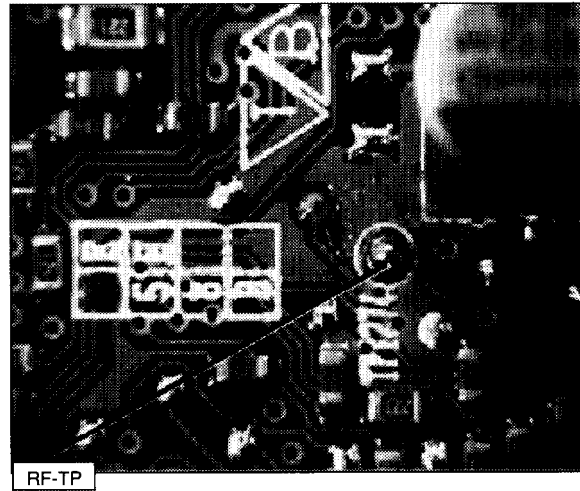

Fig 3-1
- 1). Solder a lead wire at the RF-TP point shown in the Fig. 3-1 PCB picture and connect it to Jittermeter.